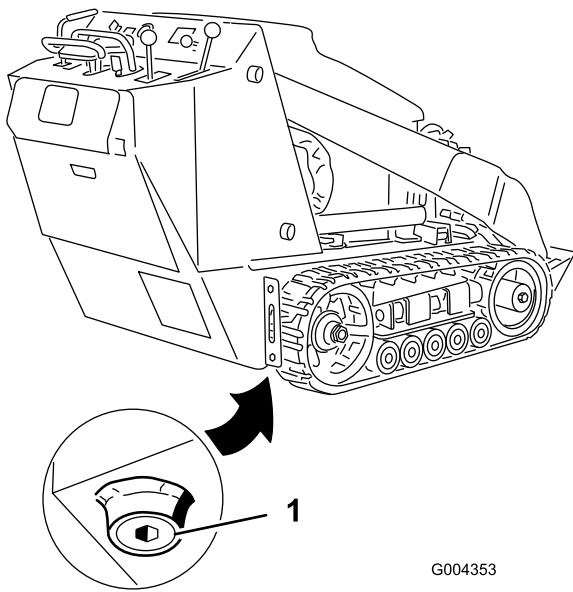

Figure 35
4. Remove the drain plug (Figure 35).